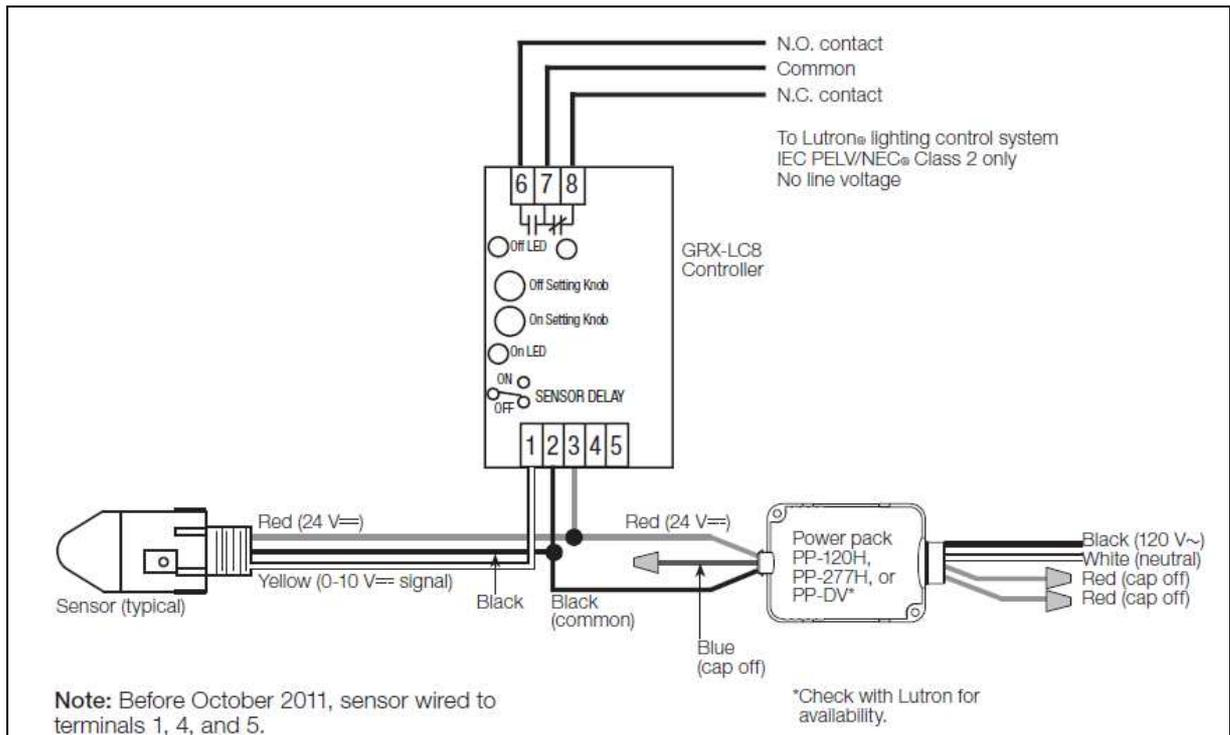

Figure 1
1. Wire the input side of the power pack to line voltage (120V or 277V AC) and wire the low-voltage output side of the power pack to the daylight sensor and the GRX-LC8 controller. Connect the 3 wires from the daylight sensor and the 2 wires from the power pack to input terminals 1, 2, and 3 on the GRX-LC8 controller. See Figure 1 below for wiring diagram.